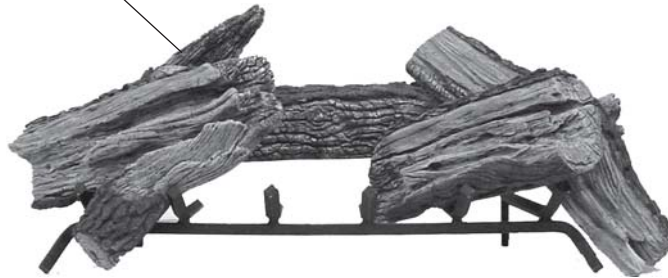

Figure 142 - Placing Top Left Log (#5) behind Rear Log
6. Place Top Left Log #5 behind Rear Log #1 on the notch on rear left of grate stand. *See Figure 142.*